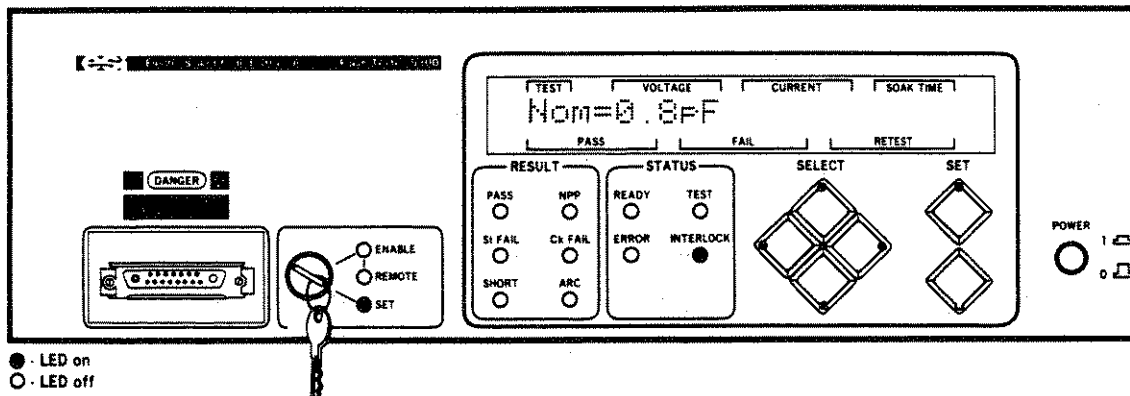

Figure 3-26. Setting the Lowest Nominal Capacitance
STEP 11. Hold the DEC pushbutton down and notice the effect that it has on the Nominal Capacitance. It should decrease in value, slowly at first, then quicker as the button is held down. Eventually the lowest Nominal Capacitance value is reached and the LED on the DEC pushbutton is no longer illuminated. Figure 3-26 is an example of this.